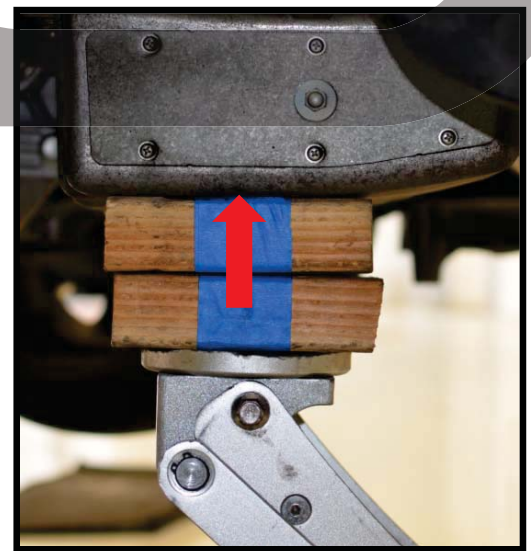

Figure 4b
- b) Support the passenger side of the vehicle with a floor jack. Shown in Fig 4b.